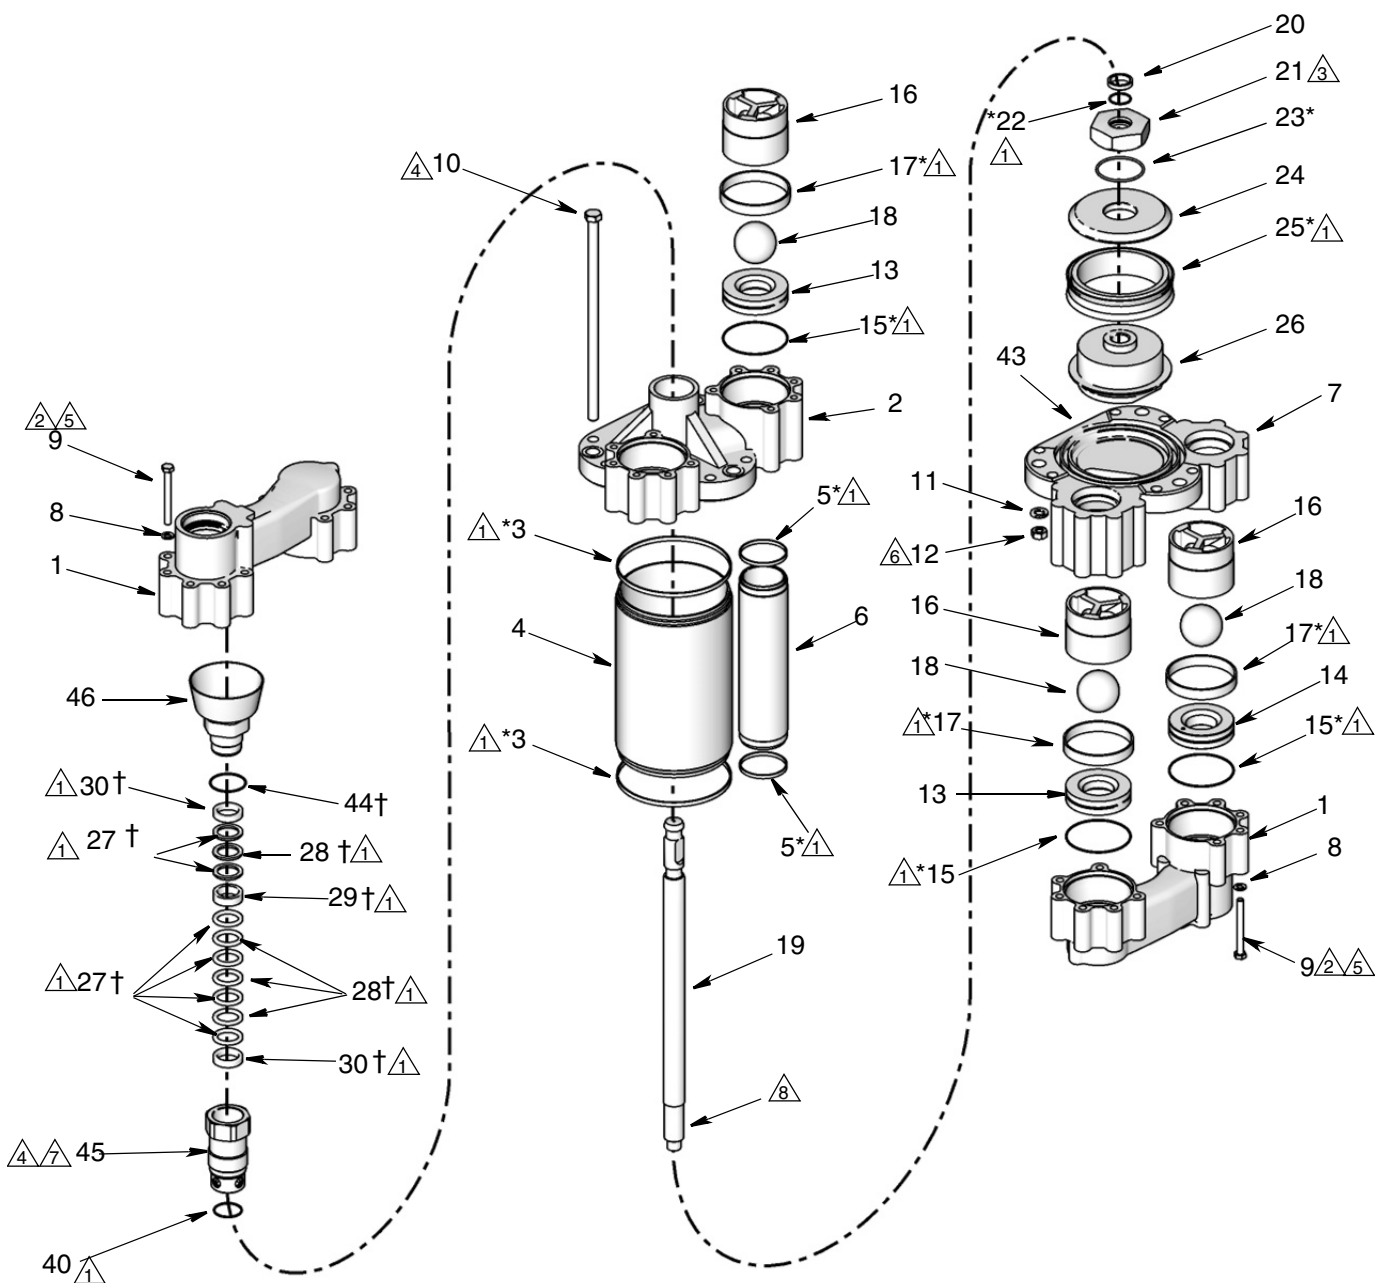

**FIG. 11. Inlet Seat with Pressure Relief Valve**
Be careful not to drop or damage the balls (18) or seats (13 or 14). A damaged ball or seat cannot seal properly and the pump will leak. One inlet valve seat (13) can be reversed to provide longer use of the seat. However, the fluid inlet seat (14) contains a pressure relief valve and is not reversible. See FIG. 11 for proper orientation.
13. Inspect the pressure relief valve in the fluid inlet seat (14) to make sure it is not clogged. Press down on
the valve's ball to see if the ball and spring are free to move. See FIG. 11.